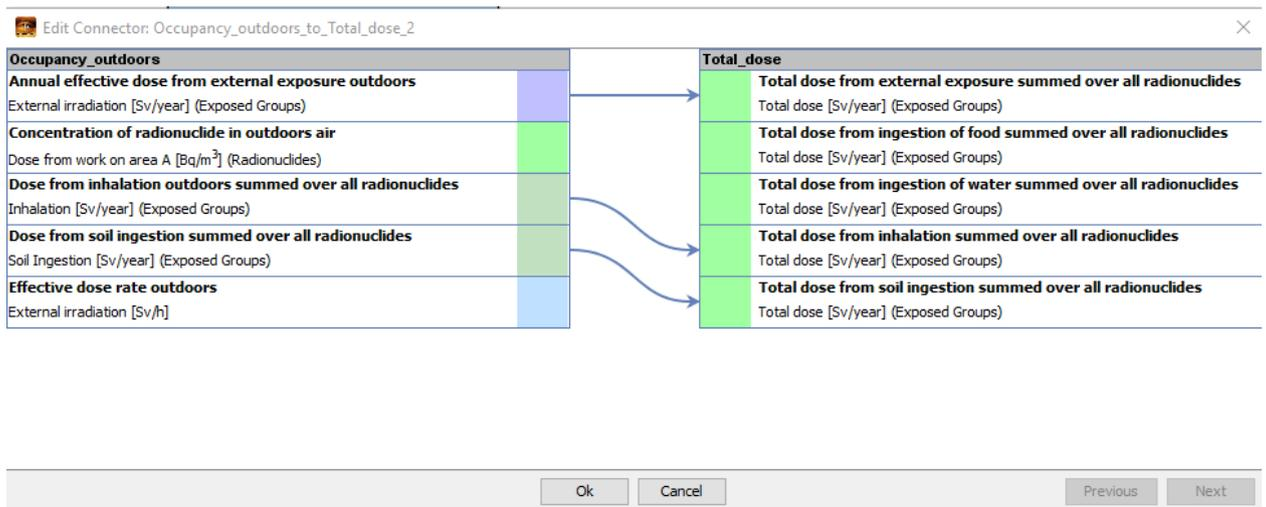

FIG 13. Using ‘*Edit Connector*’ window to set up data exchanges between modules.
1. Double click on the “connector” block between ‘Dose from work on the Area A’ and ‘Total Dose’ modules. The ‘*Edit Connector*’ window will be opened allowing to set up data exchanges between these modules (FIG 13). The left column of window lists output parameters of the ‘Dose from work on the Area A’ module, while the right column lists the input parameters of the ‘Total Dose’ module. You have to match properly ‘output – input’ parameters between these two columns. The specific parameter can be selected by right-clicking the particular table cell, and selecting the need parameter from the pop-up list that appears.